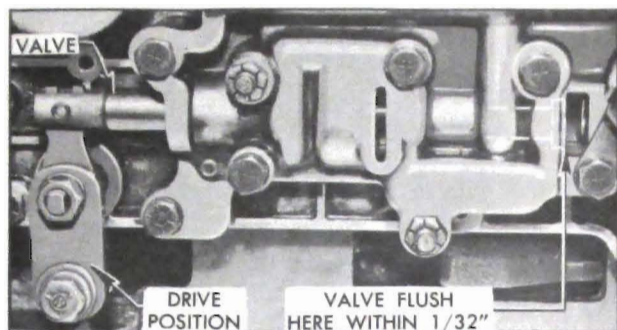

Figure 5-103—Position of Control Valve in Direct Drive Range
11. Move shift lever two detent notches to Direct Drive position and note position of control valve. The inner end of valve should be within $\frac{1}{32}$ " (either way) of the edge of hole in valve body indicated in figure 5-103.
14. Install selective thrust washer, retaining washer, and bolt with external tooth lockwasher on front end of input shaft. See figure 5-103. Shift into "Parking" and pry up on reverse band operating lever with screwdriver to lock input shaft, then tighten bolt to 30-35 ft. lbs. torque.